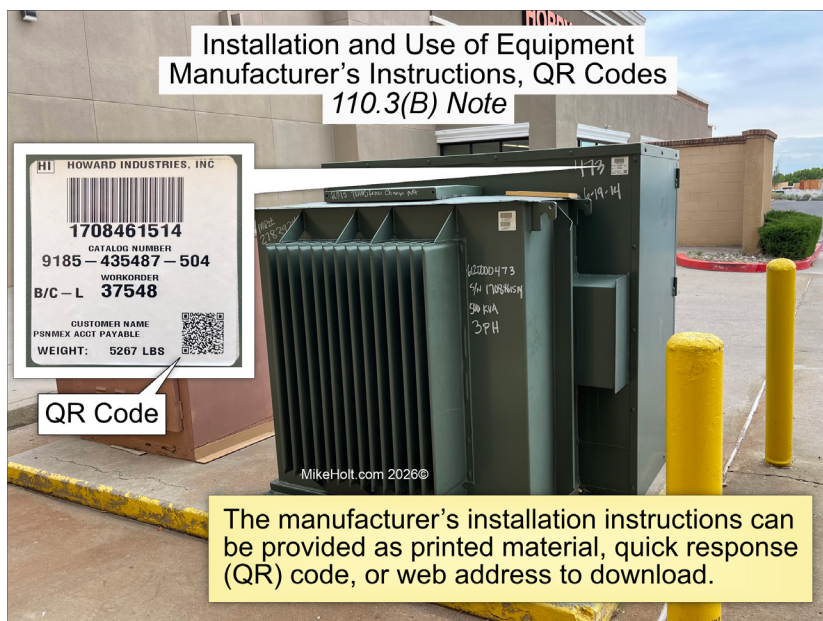

Fig. 3.
Note: The manufacturer's installation instructions can be provided as printed material, quick response (QR) code, or web address to download (Fig. 3 on page 36).